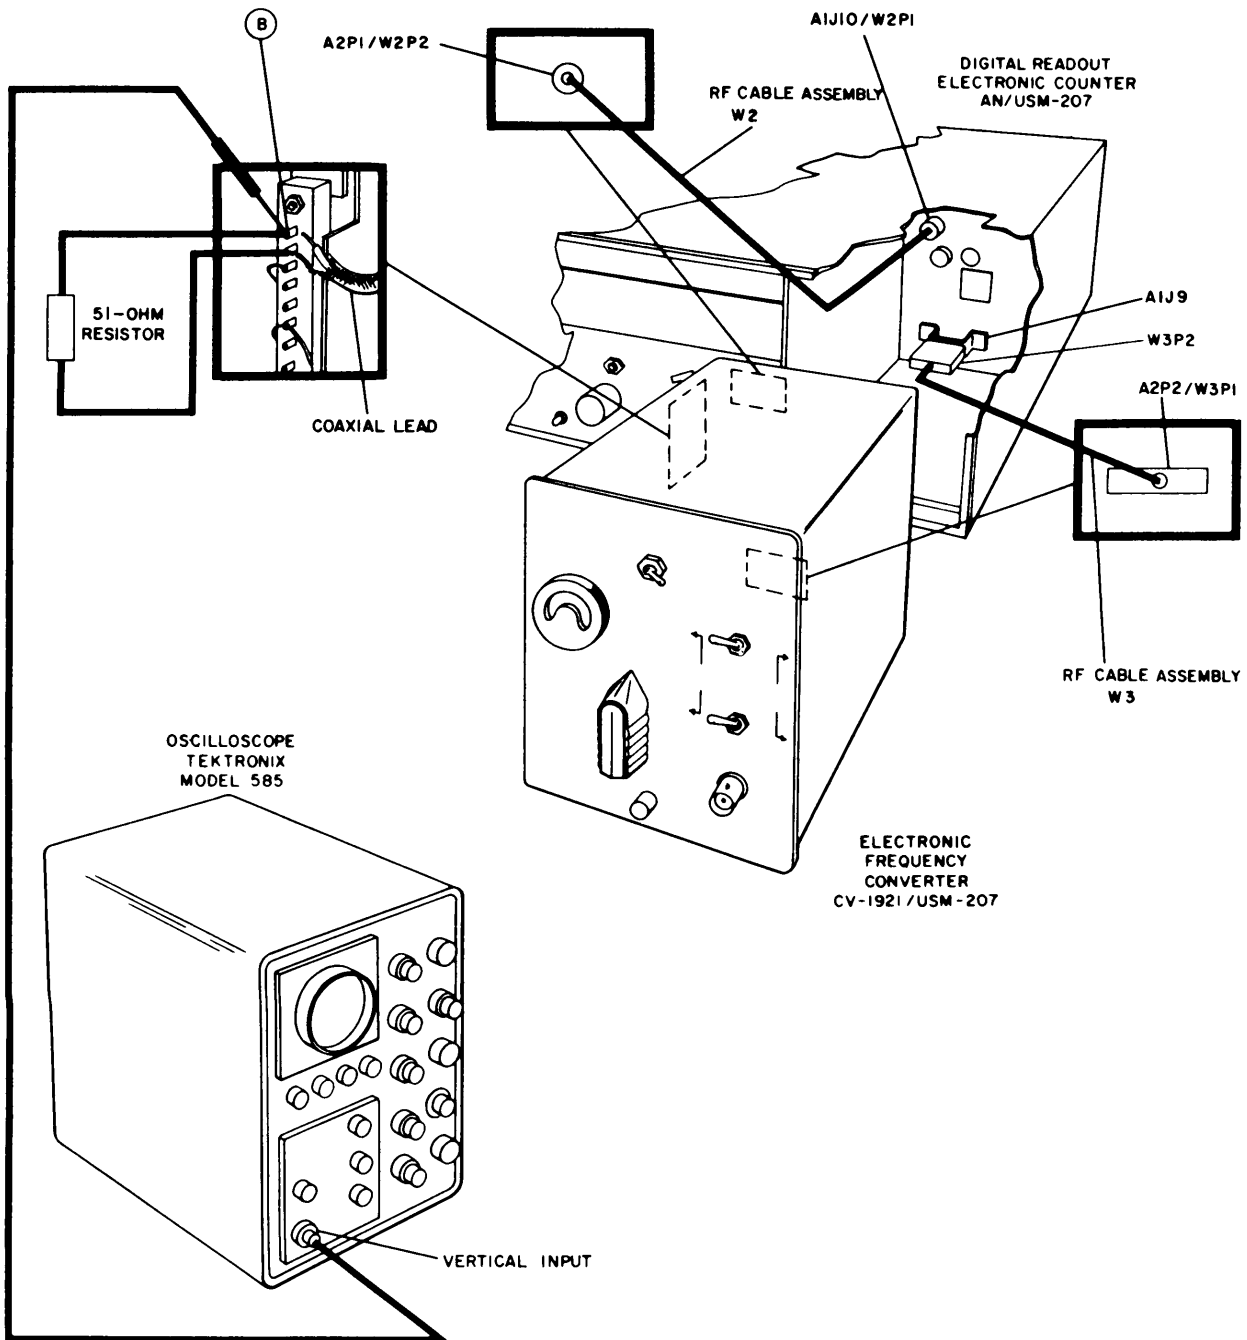

Figure 5-5. Frequency Multiplier A2A1 Adjustment, Test Setup
- (d) Connect test setup as shown in figure 5-5.